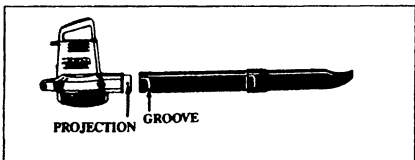

Figure 16
2. Turn the Blower Tube/Nozzle Assembly counterclockwise ← at the Motor Housing until the assembly can be removed. Figure 16.